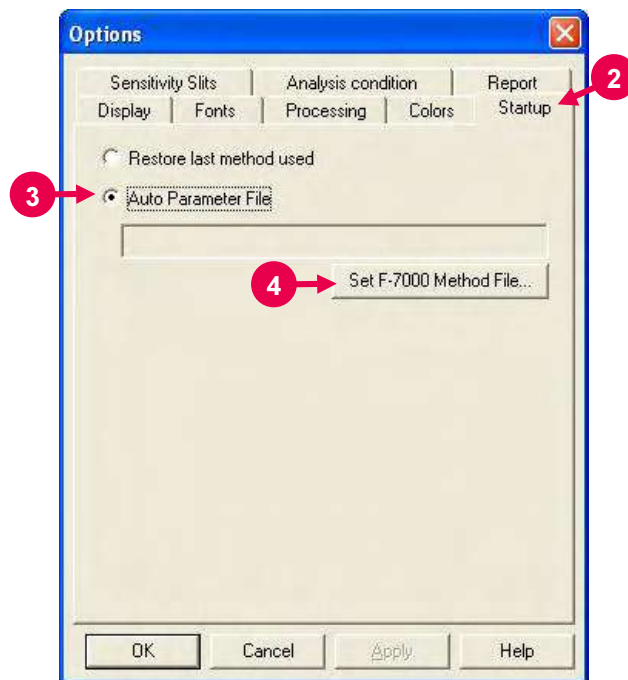

Fig. 8-2 Startup Tab
- (2) Select the Startup tab (refer to ② in Fig. 8-2), and a tab page as in Fig. 8-2 will appear.
- (3) Select "Auto Parameter File" (refer to ③ in Fig. 8-2) and click the **Set F-7000 Method File** button (refer to ④ in Fig. 8-2).